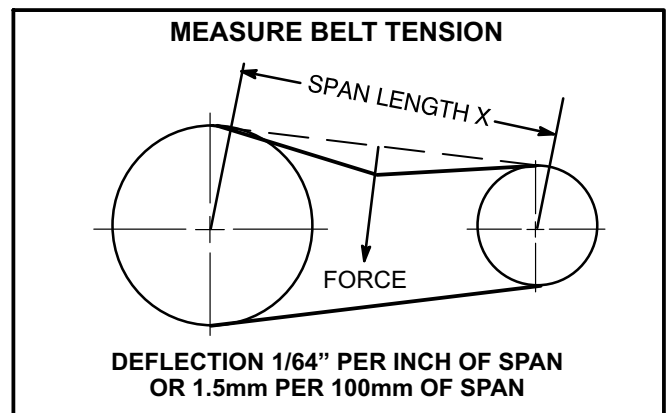

FIGURE 11
- 1- Measure span length X. See figure 11.
- 2- Apply perpendicular force to center of span (X) with enough pressure to deflect belt $1/64$ " for every inch of span length or 1.5mm per 100mm of span length.